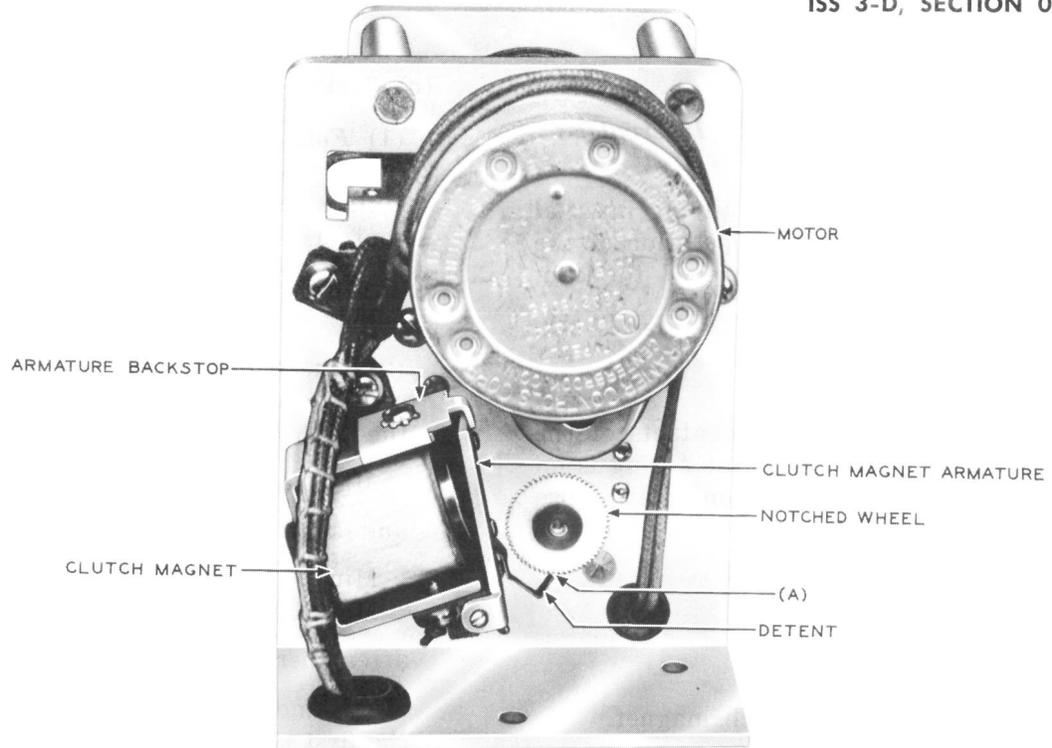

Fig. 3 — KS-16329 Timer — Bottom View (L1 timer shown)
2.08 Position of Clutch Magnet Detent: Fig. 3(A)